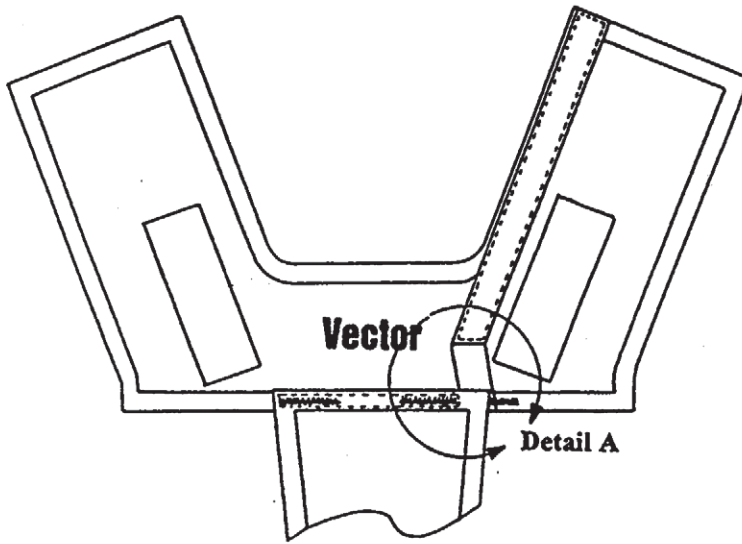

Fig. 3
Step 3. Un-pick the top right corner of the reserve top flap by 25mm (1") as shown in detail A to Fig. 3 to allow the "RSL velcro track" to be installed.
Step 4. Install the "RSL velcro track" to the RH side of the yoke as illustrated in Fig.3. Note: The track is sewn where shown with dotted lines with an unsupported "bridge" over the cutaway housing. Fold the velcro/tape under where shown so the "velcro track" ends up under the corner of the top flap. Narrower Vectors will require a sharp bend with the wider models requiring less of a bend. See detail A Fig.3.
Step 5. Bar tack (or zig-zag) the end of the bridge under the reserve top flap as illustrated in detail A to Fig.3. Trim off excess length. At the same time bar tack (or zig-zag) top corner of the reserve top flap 15mm (5/8") back from the corner. Restore 301 stitching where shown.
Detail A, Fig. 3